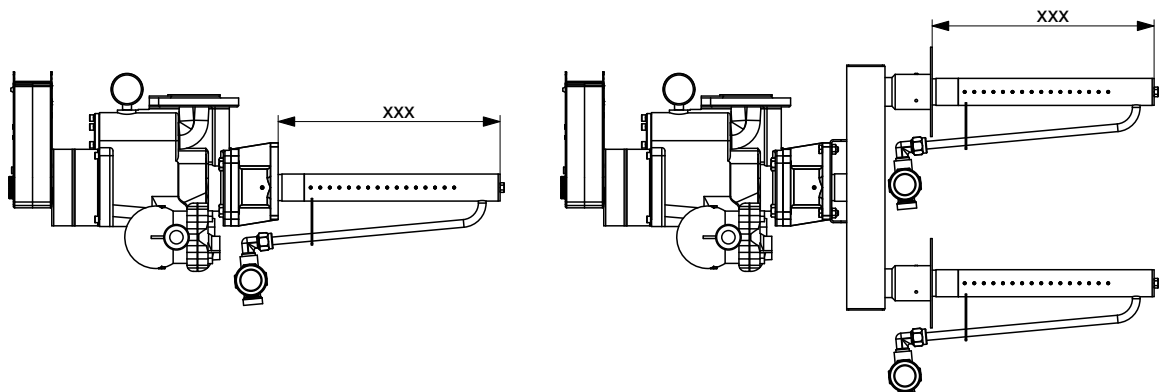

Fig. 22: DL40 steam pipe length
- **178:** 178 cm long from valve or collector flange (see dimension "xxx" in Fig. 22)